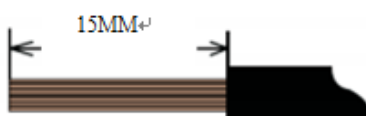

Figure 3
3. The wiring is sequential; Firstly, peel the wire, with a recommended peeling length of 15mm, as shown in Figure 3; Secondly, the wire passes through the PG head of ATESS DC-DB-50KTL, as shown in Figure 4; Crimp the terminal onto the wire again, and finally connect the corresponding wire to the corresponding miniature circuit breaker.